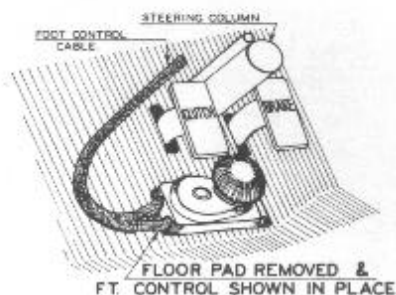

Fig. 3.
3. Remove the floor mat around the clutch and brake pedals. Place the foot control over the holes provided in the floor board. Fasten it with the three No. 8 R.H. self-tapping screws furnished in the installation kit (Fig. 3).